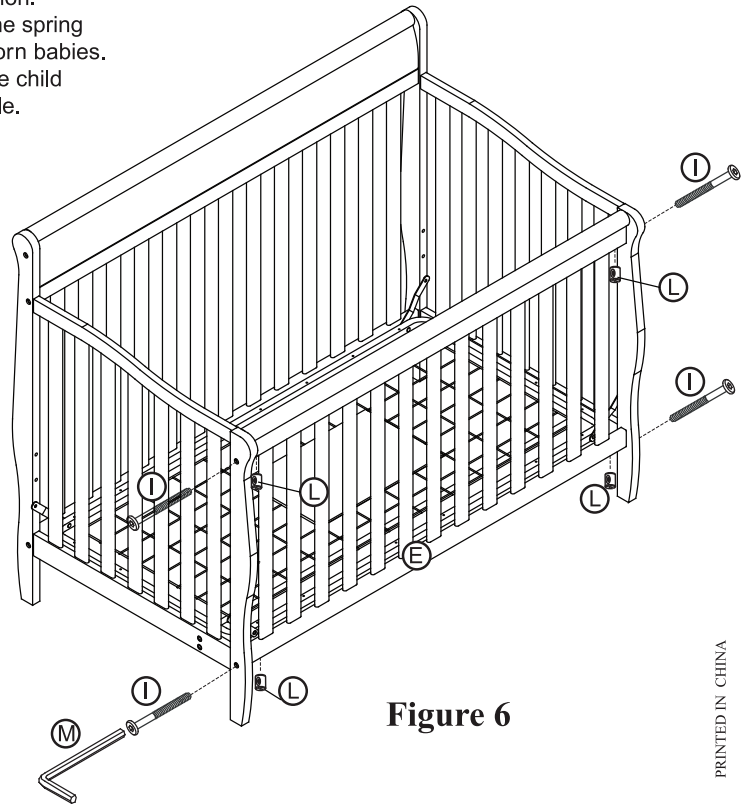

Figure 6
Attach the Front Rail (E) using 2-1/2" Allen head bolts (I) & barrel nuts (L). Tighten securely with Allen wrench (M). See Figure 6.